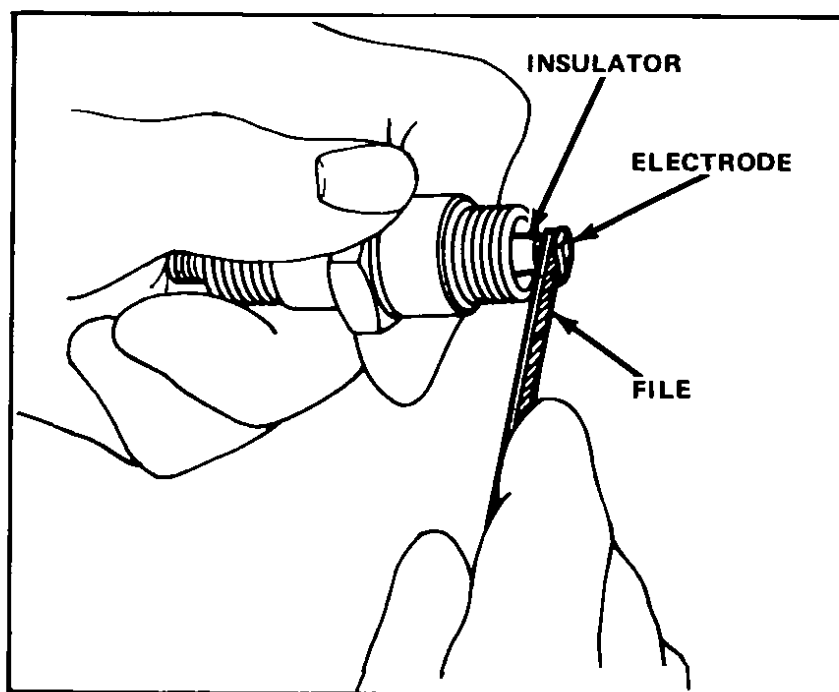
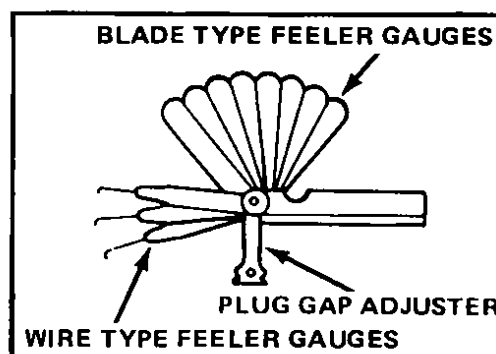
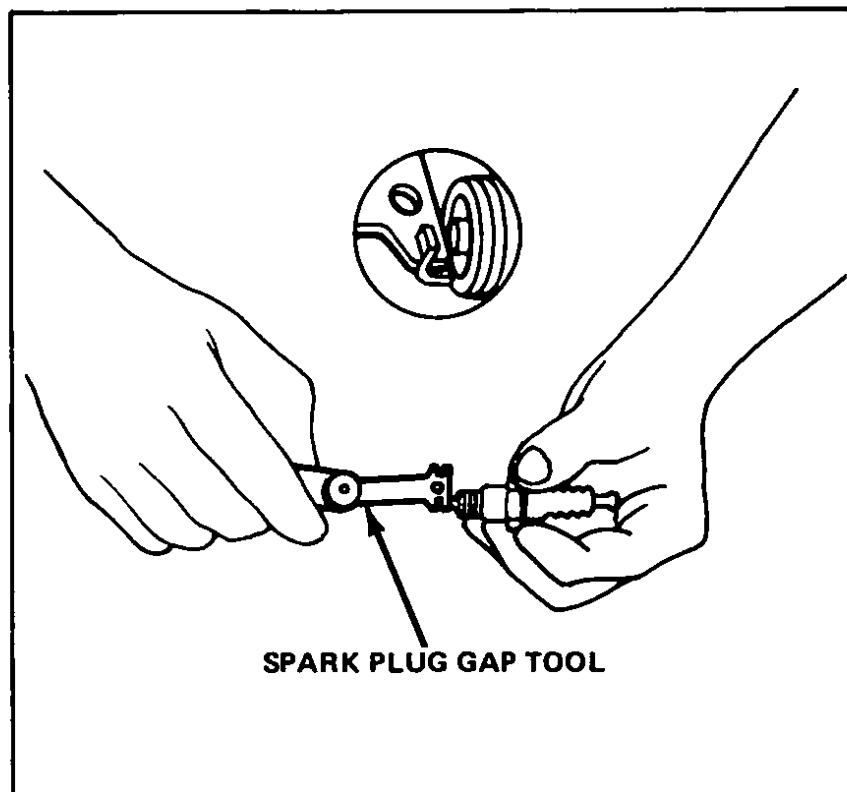

Fig 26 Filing spark plug electrode
Fig 27 Typical feeler gauges
Fig 28 Adjusting spark plug gap
- 6 If the old spark plugs are to be reused, file the electrodes square with an ignition file, Fig 26 Be sure all deposits are cleaned from inside the shell and inspect them to make sure the porcelain is clean and not cracked Replace any spark plug that has been dropped or has a cracked porcelain Check the gap (air space) between the two electrodes at the bottom of the threaded end, using a feeler gauge, Fig 27 Adjust the gap by bending the side electrode (Fig 28) to the dimension shown in the Tune-Up Specification chart at the end of this chapter